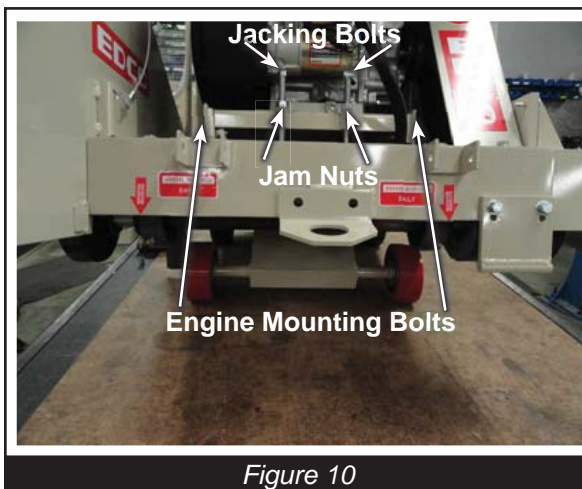

Figure 10
- Loosen engine mount mounting bolts and jam nuts, then turn jacking bolts to lift or lower engine mount. Lift engine to tighten belts lower engine to loosen/replace belts. (Figure 10)
- The model SS26-31D and SS36-57D are heavy duty saws designed to use large diameter blades for deep cutting. SS26-31D - blade size 14 inch to maximum diameter of 26 inches (66cm). SS36-57D - blade size 14 inch to maximum diameter of 36 inches (92cm). (Figures 10 thru 15)
- Remove belt guard and arbor guard. Loosen engine mounting bolts and jam nuts, turn jacking bolts to lower engine (Figure 10 thru 15) to a point where the belts can be removed. Remove jackshaft belt on SS36-57D first to gain access to arbor shaft belts.